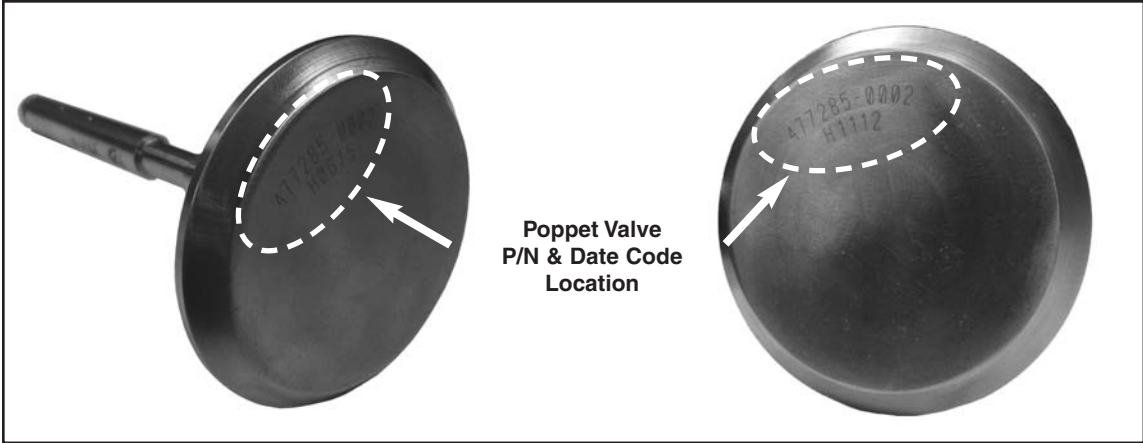

Figure 2 - New Poppet Valve (HET P/N 477285-0002) with H1112 Date Code
- (1) Remove the affected Wastegate Poppet Valve assembly from the Turbocharger in accordance with the aircraft/engine and the HET 400600-0000 Rev B or latest maintenance manuals.
- (2) Inspect the face of the Poppet Valve for the affected date code (H1112) shown in Fig. 2:
- (a) If the date code is H1112, continue to 3.C(1) or 3.C(4).